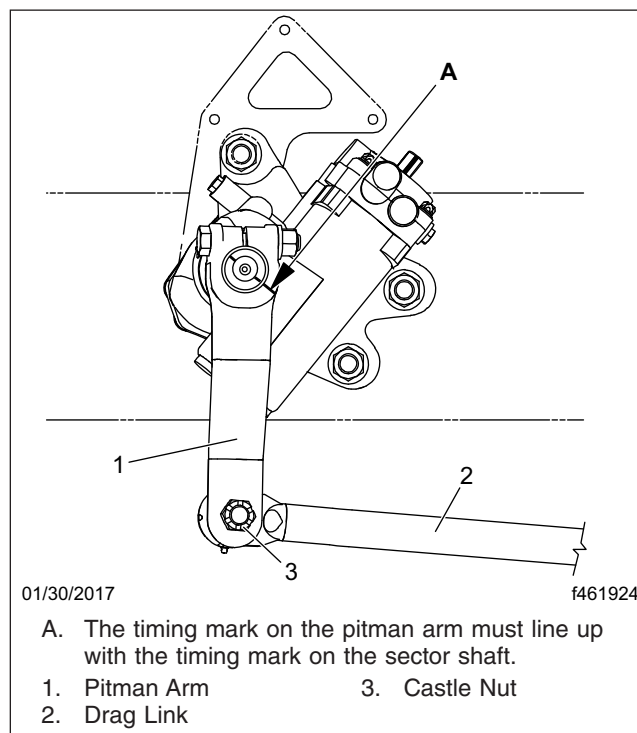

Fig. 2, Pitman Arm
- 7.1 Position the pitman arm on the steering gear, aligning the timing mark as shown in Fig. 2.